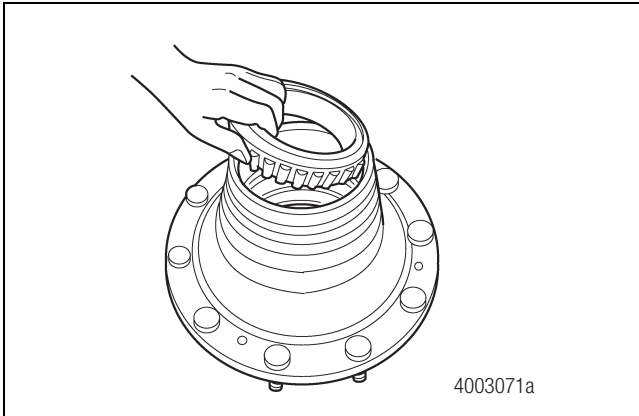

Figure 3.37
3. Install the inner bearing cone prior to installing the oil seal. Use a hub seal driver, tool drawing number 5203, to install the oil seal. Figure 3.37. Refer to Section 8, Figure 8.8, for instructions to build the tool.